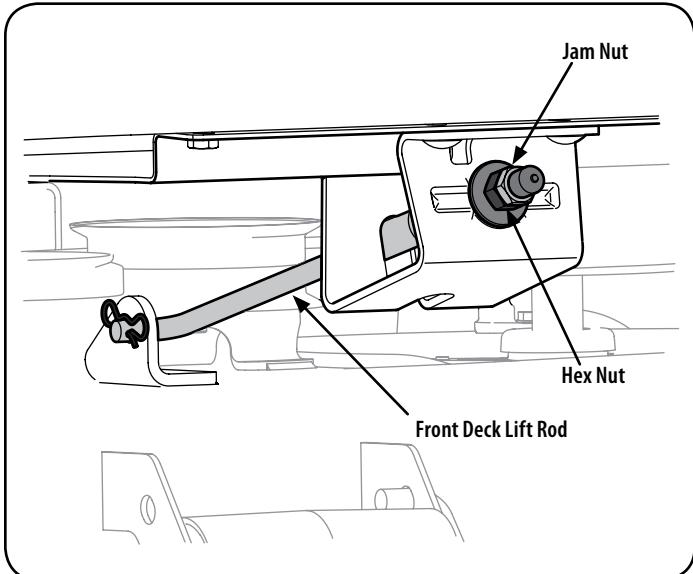

Figure 30
5. Using a wrench, loosen the jam nut first, then raise or lower the front of deck by turning hex nut on the front deck lift rod. See Figure 30.